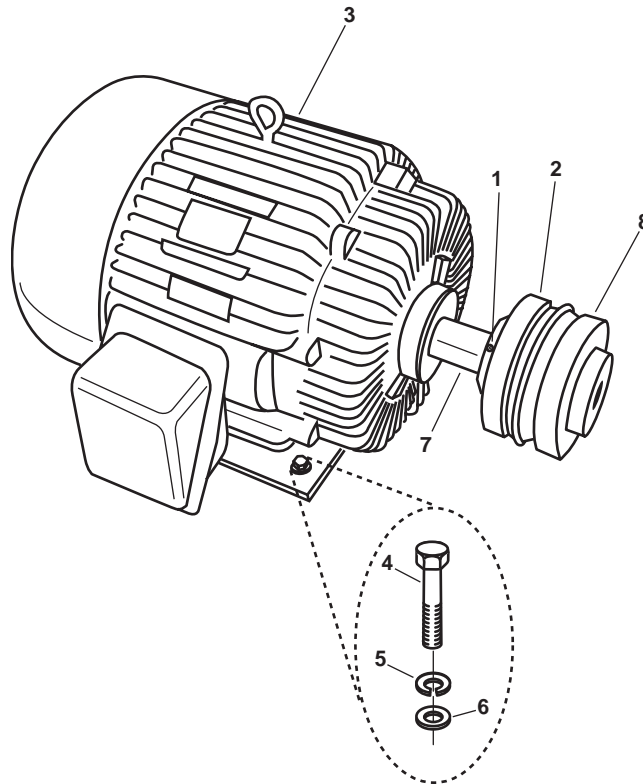
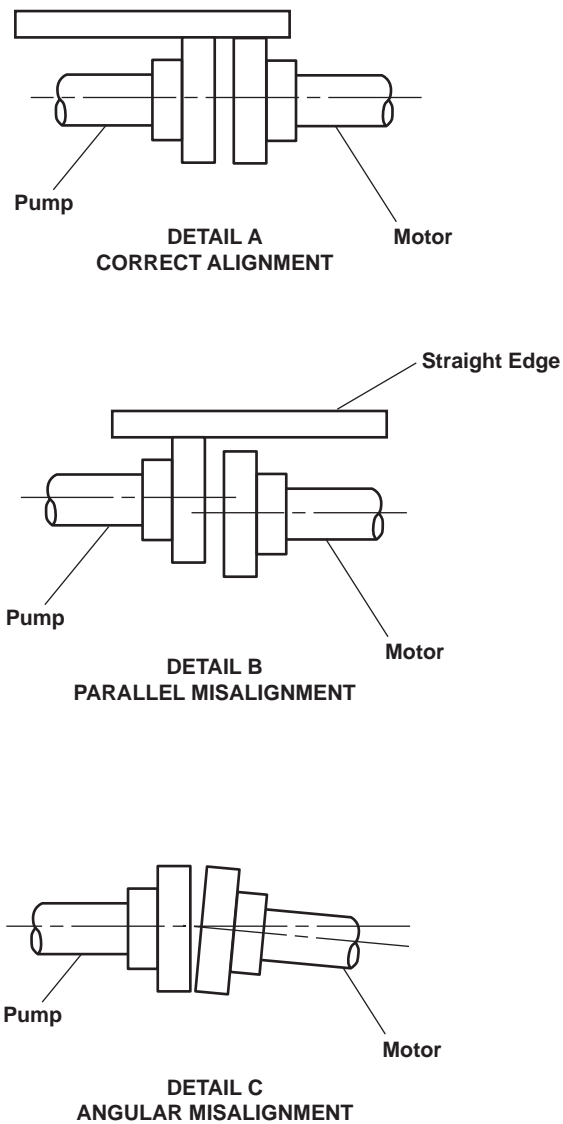

Figure 3. AFFF Pump Coupling Detail
Figure 4. AFFF Pump Coupling Alignment
7. Loosen the motor coupling flange setscrew (figure 3, item 1).
8. Slide the motor coupling flange (figure 3, item 2) towards the AFFF pump motor (figure 3, item 3).
9. Remove the four bolts (figure 3, item 4), four lockwashers (figure 3, item 5), and four flat washers (figure 3, item 6). Discard the four lockwashers.
10. Use a sling and chain hoist to remove the AFFF pump motor (figure 3, item 3) from its foundation.
11. Slide the motor coupling flange (figure 3, item 2) off the motor shaft (figure 3, item 7).
1. Slide the motor coupling flange (figure 3, item 2) onto the motor shaft (figure 3, item 7) with the small end towards the AFFF pump motor (figure 3, item 3).
2. Use a sling and chain hoist to position the AFFF pump motor (figure 3, item 3) on its foundation with the mounting holes aligned.
3. Install four bolts (figure 3, item 4), four new lockwashers (figure 3, item 5), and four flat washers (figure 3, item 6). Do not tighten at this time.
4. Align the pump coupling flange (figure 3, item 8) and the motor coupling flange (figure 3, item 2) together ensuring parallel and angular alignment as shown in figure 4.
Correct alignment of the pump coupling and motor coupling is shown in detail A of figure 4. Parallel misalignment and angular misalignment are depicted for reference only in details B and C, respectively.
5. Once the pump coupling flange (figure 3, item 8) and the motor coupling flange (figure 3, item 2) are correctly aligned per detail A of figure 4, tighten the motor coupling flange setscrew (figure 3, item 1), and the four bolts (figure 3, item 4).